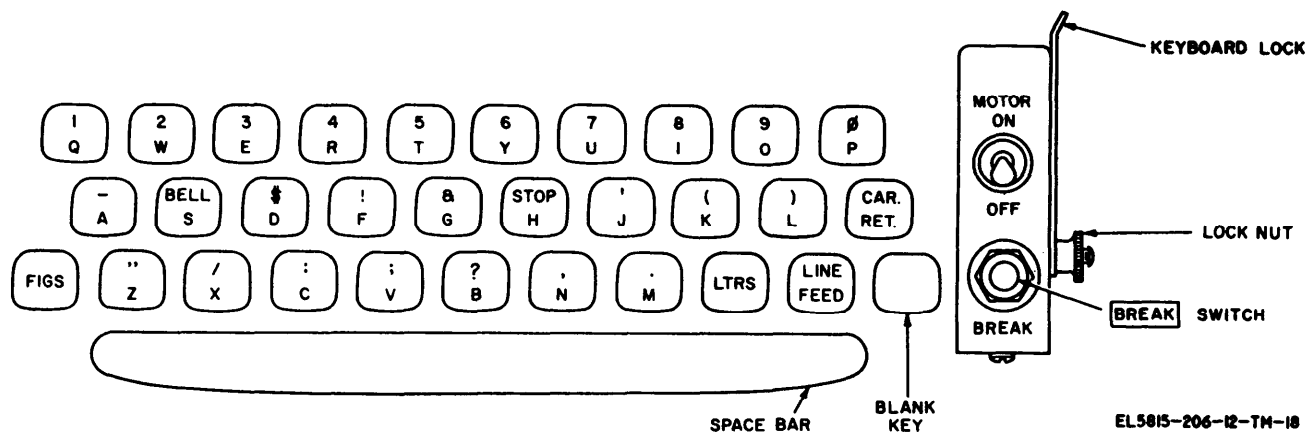

Figure 2-5. Teletypewriter TT-4(*)/TG or TT-698(*)/TG
f. *Keyboard Lock.* If messages are to be transmitted from the teletypewriter, loosen the locknut (fig. 2-5), slide the keyboard lock toward the front of the teletypewriter, and tighten the locknut.